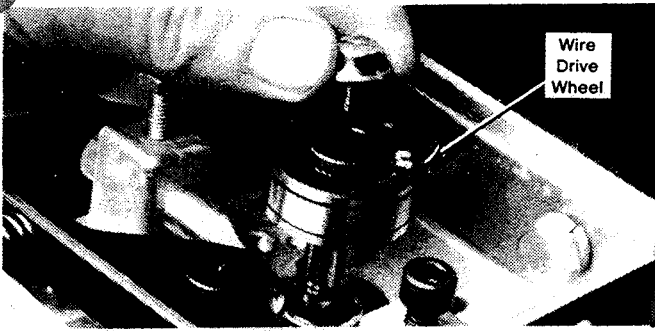

Figure 11
9. Check the drive wheel groove for proper size. The small groove is for .023" (0.6 mm) dia. wire; the large groove is for .030" (0.8 mm) and .035" (0.9 mm) dia. wire. 0.6 will read on top of drive wheel when set up for .023" (0.6mm) wire. (See Figure 11)